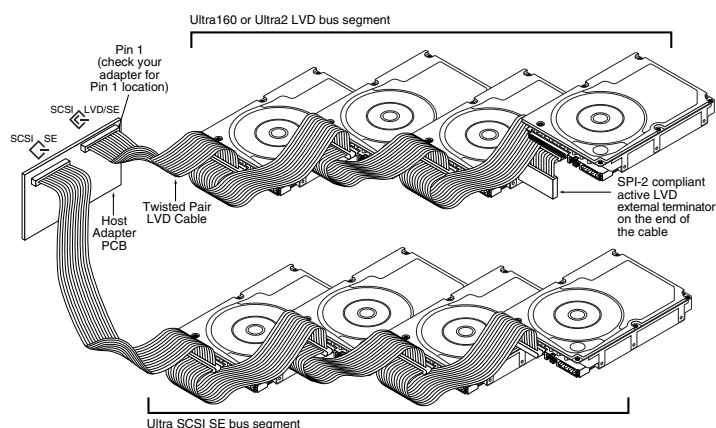

Figure 3. Cable connections and external termination
**Note.** Some LVD host adapters provide an LVD connector *and* an SE connector on the same host adapter to allow you to run SE and LVD drives concurrently at their maximum capabilities. Check your SCSI host adapter documentation. See Figure 3.
If you are installing the drive in a system that has other SCSI devices installed, terminate only the end devices on the SCSI bus (cable). This drive does not have internal terminators or any other way of adding internal termination on the drive. You must provide external termination when termination is required. This is normally done by adding an inline terminator on the end of the cable. See Figure 3 for an illustration showing a system configuration that uses an external terminator.
- Connect the DC power cable to the drive. See Figure 3.